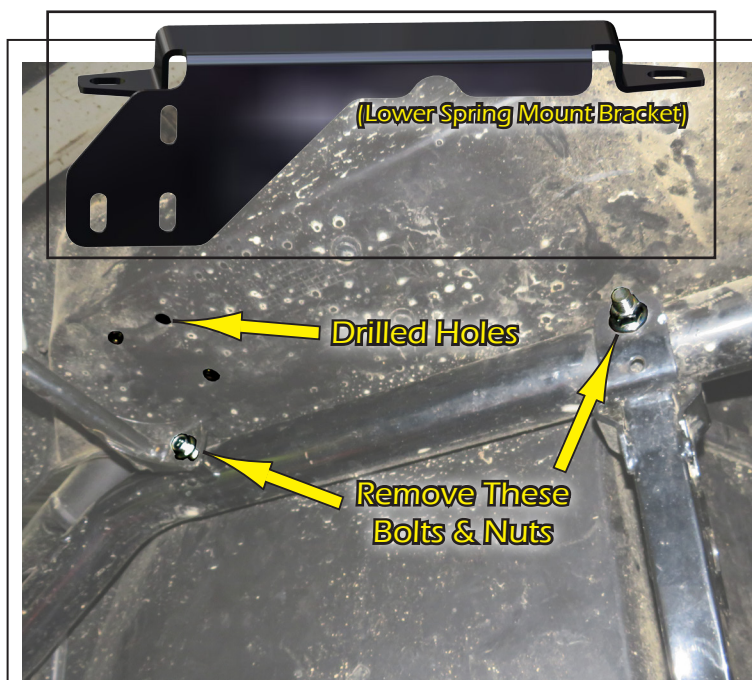

FIG.6A
6. Now you need to locate the **Lower Spring Mount Bracket** and will be installing it up underneath the rear fender well as shown in **Fig.6a.** To do this, you will need to remove the bolts and nuts shown in **Fig.6a,** but keep them as you will be using them next. **See Fig.6a.**